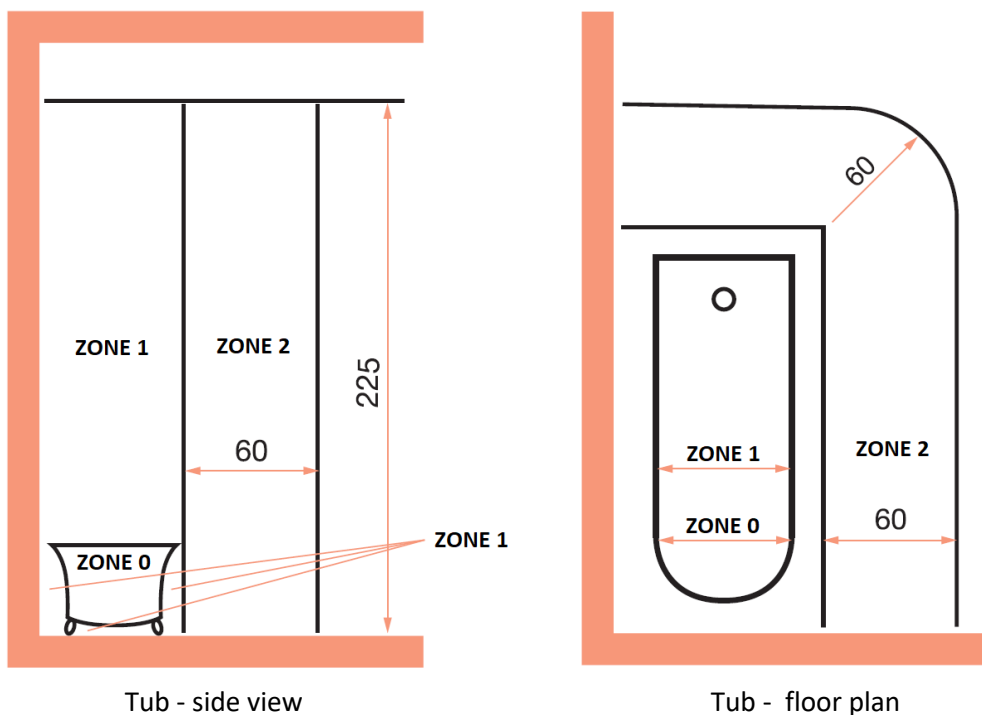

Figure 1
- possibility of installation in bathrooms and lavatories in zone 1 - IP protection 25 (above the bathtub and shower inserts), pursuant to ČSN 33 2000-7-701 (Figure 1)